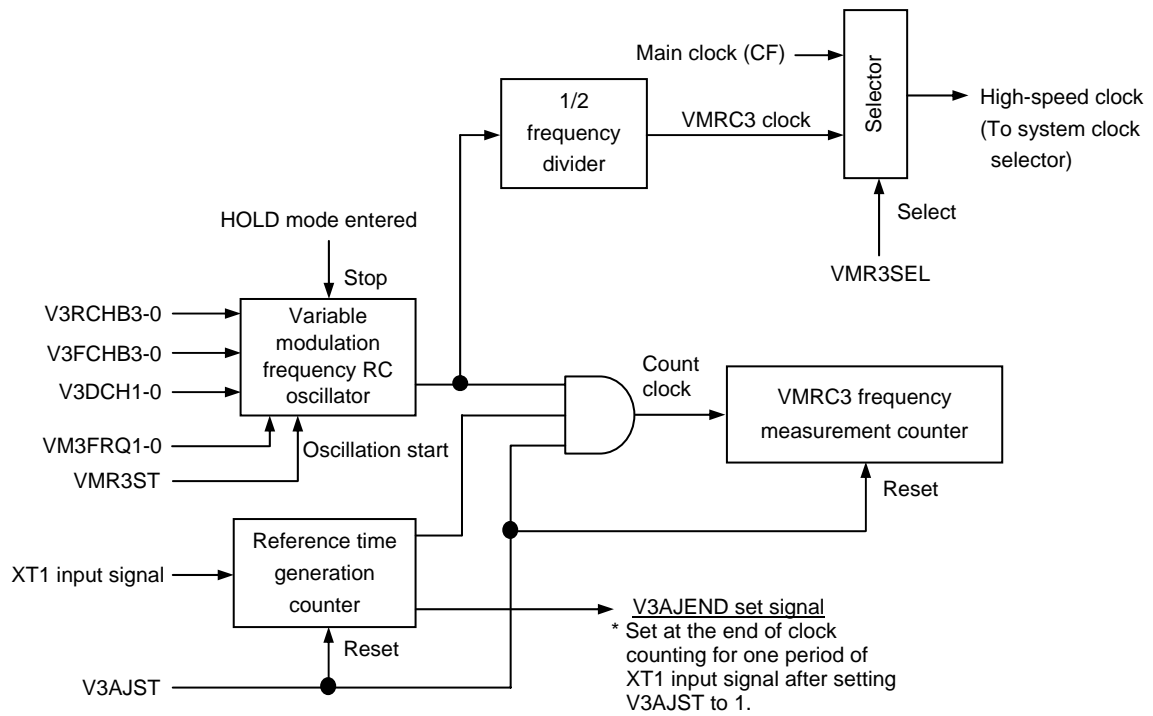

Figure 4.3.1 VMRC3 Block Diagram
* See Figure 4.3.1 for details.